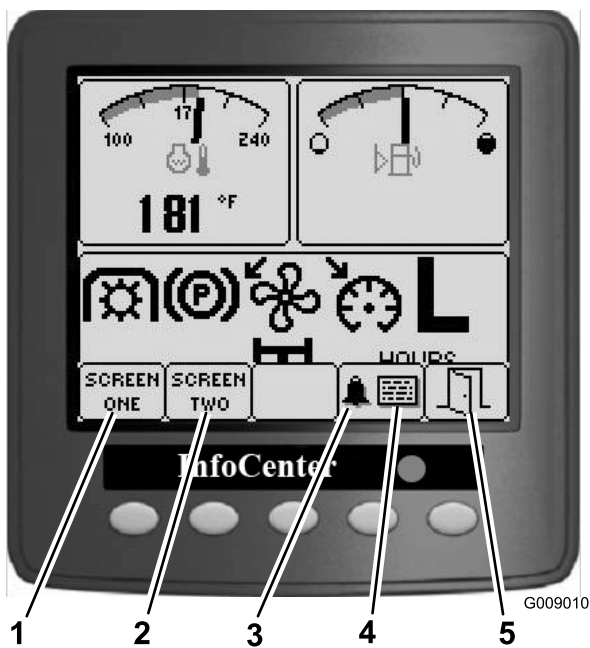

Figure 13
- Press the corresponding button to view screen 1 or screen 2, to stop the audible alarm, to view the fault screen, or to exit (Figure 13).